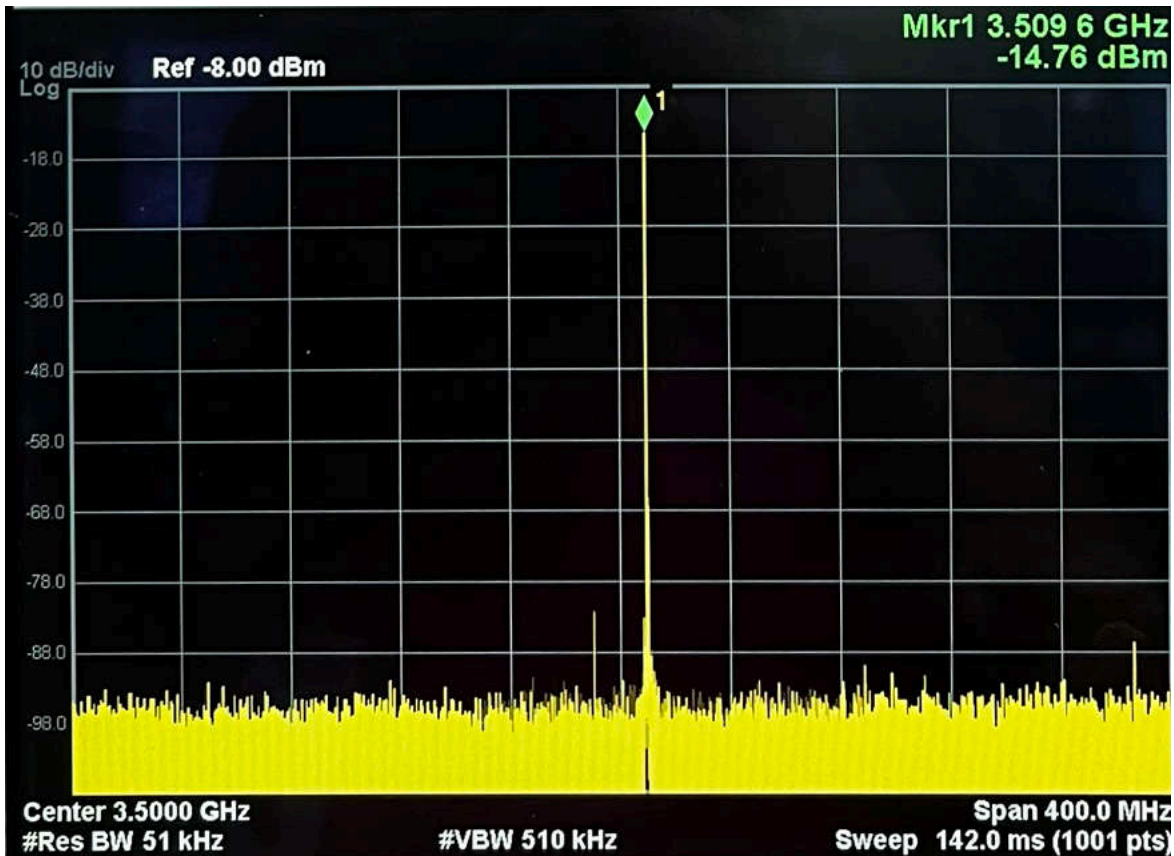

Figure 4-4. Typical TXDAC 10MHz Single Tone Performance at 3.5GHz NCO with -10dBFS Amplitude
2. Highlight a portion of applicable code, and press F7 to run. See Figure 4-4 for typical performance measurement.